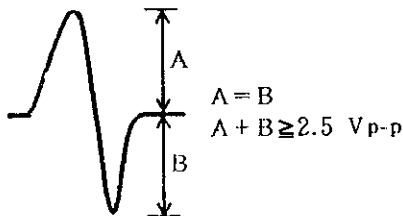

Fig. 8
3. Pressing the "1 + MULTI-SPEED" key while watching the oscilloscope screen allows you to observe for an instant the waveform shown in Fig. 8. Confirm that the amplitude is 2.5 V_{p-p} or larger and the amplitude of the positive side is approximately the same as the negative side. Note that the waveform is displayed only for an instant when the "1 + MULTI-SPEED" key is pressed. Press the key as many times as needed until the waveform can be confirmed.